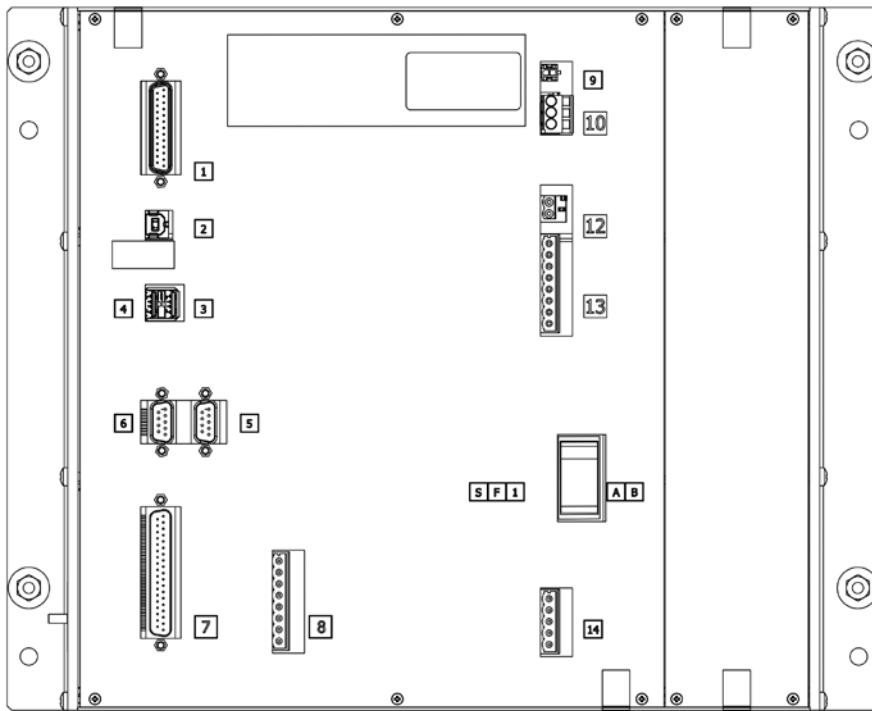

Figure 56
- 2) Unscrew four nuts fixing the RCM and remove the washers (see Figure 56);